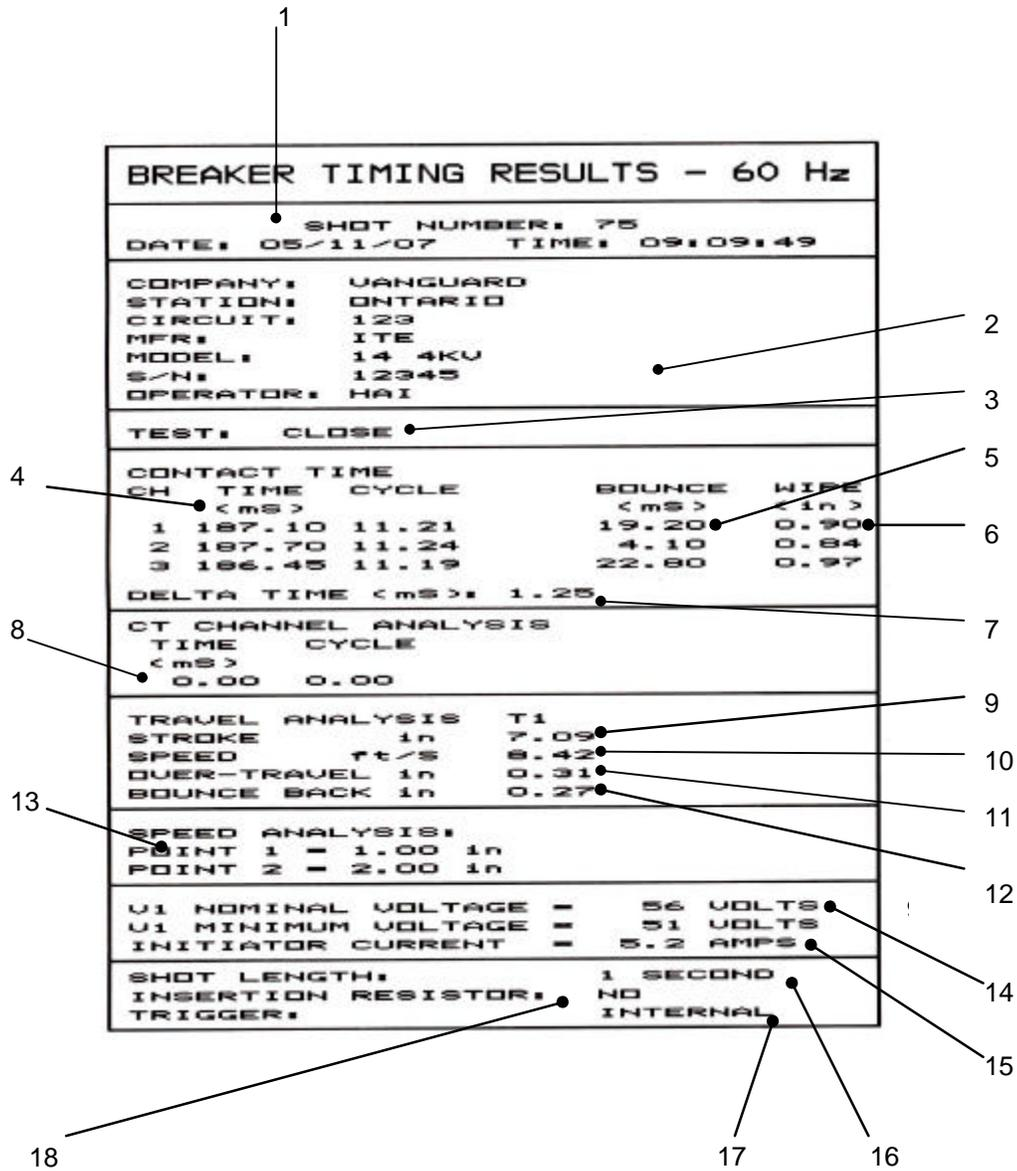

Figure 14.0 Typical Tabulated Printout of an Open Operation From the Thermal Printer
A typical circuit breaker timing result printed from the thermal printer is shown in Figure 14.0.
3. Timing test type (OPEN, CLOSE, O-C, C-O, O-C-O) is identified. A CLOSE timing shot is shown in figure 14.0.
4. Contact channel #1 time is shown in both milliseconds and cycles. From Figure 14.0, contact channel #1 time was 187.10 ms or 11.21 cycles.